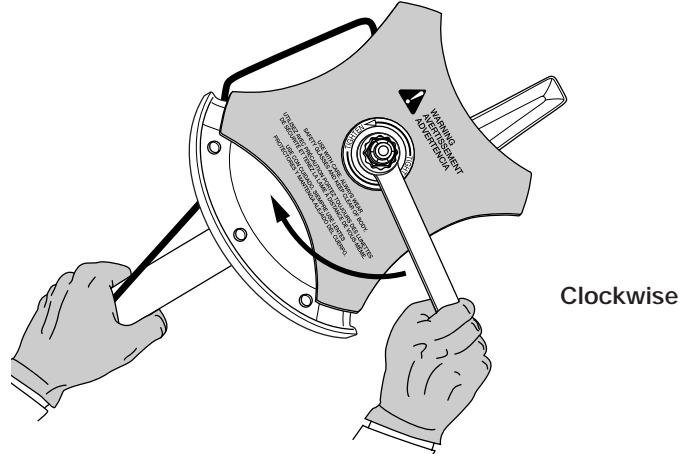

Fig. 21
2. Hold the locking rod in place by grasping it next to the boom of the unit (Fig. 21).
3. While holding the locking rod, loosen the nut on the blade by turning it clockwise with a 5/8 inch closed-end or socket wrench (Fig. 21).